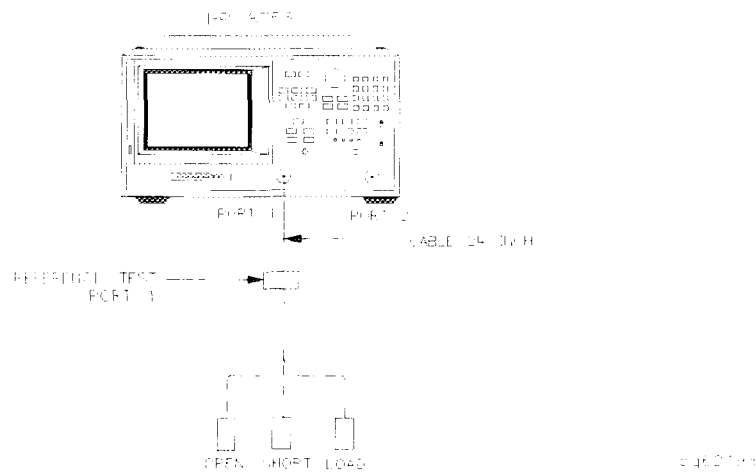

Figure 4-26. S11 1-Port Cal Test Setup
- 1 Connect the equipment as shown in Figure 4-26.
- 6 Connect an open to reference test port 1, as shown in Figure 4-26.